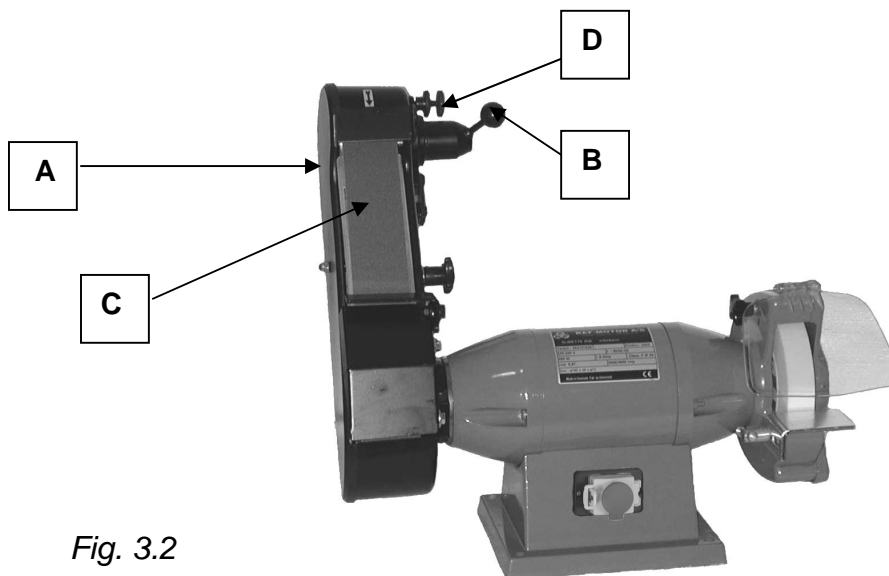

Fig. 3.2
When the grinding belt has worn down it must be replaced, which is done in the following way: Remove the outer shield (A) (see *fig. 3.2*) of the casing and pull the handle (B) down. This releases the grinding belt (C), so it can be removed and replaced by a new one, which should be fitted in reverse order. Check that the direction of the arrows on the rear of the belt corresponds to the direction of rotation. Once the new grinding belt has been fitted, it is necessary to ensure a straight running action by adjusting the handle (D), which should be loosened until the grinding belt runs straight on the contact wheel. Then tighten the handle (B). **This adjustment of the grinding belt must only be carried out by pulling the grinding belt manually, and never with the machine switched on.**